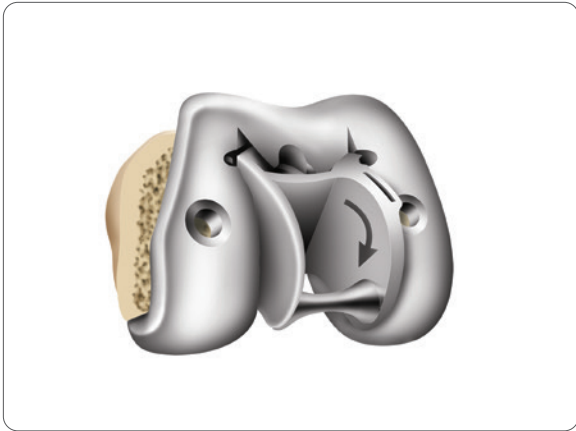

Figure 54
2. Insert the arms of the femoral cam module into the anterior aspect of the femoral trial box and rotate posteriorly until seated (**Figures 54 and 55**).